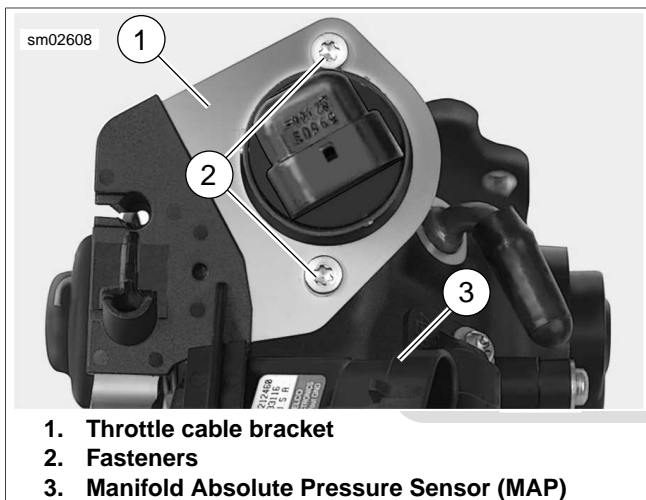

Figure 4-24. Throttle Cable Bracket Location
2. See Figure 4-24. Remove two fasteners (2) to release throttle cable bracket (1) from induction module. Discard fasteners.
4. See Figure 4-24. Install **new** throttle cable bracket fasteners (2). Tighten to 20-35 **in-lbs** (2.3-4.0 Nm).